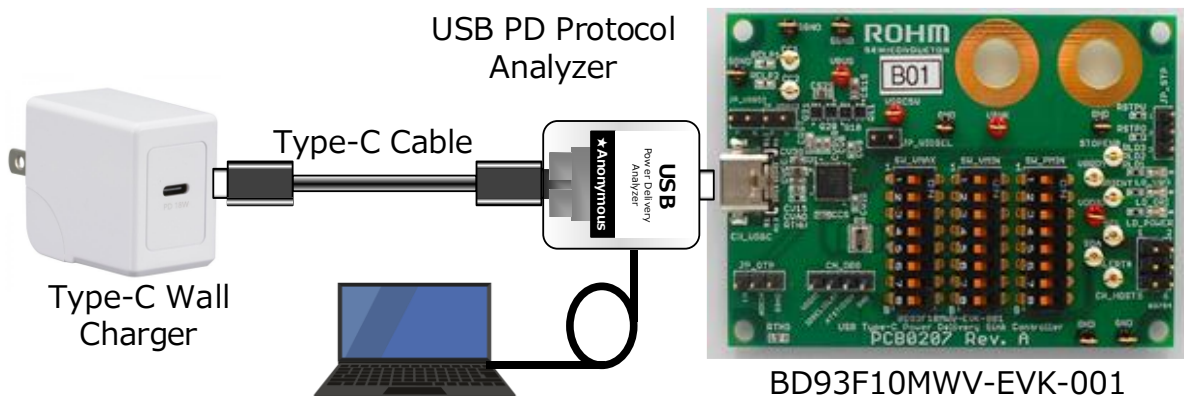

Figure 8. An example of the connection with a protocol analyzer for PD communication
1. Prepare any source device, e.g., Type-C/PD adapter, then connect to the Type-C receptacle on the EVK via a cable. Please insert a USB Type-C / PD protocol analyzer between the Source device and EVK if it is required to monitor the transaction on CC signals as shown in Figure 8.